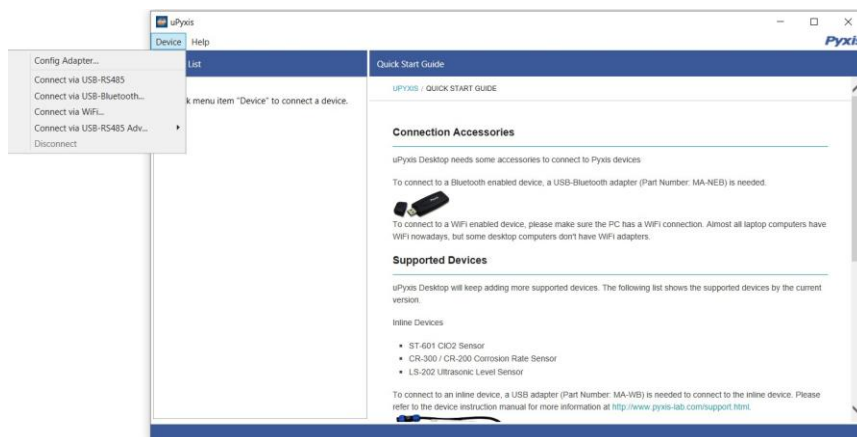

Figure 12.
3. On **uPyxis®** Desktop App, click Device → **Connect via USB-Bluetooth** or **Connect via USB-RS485** (Figure 12).
4. If the connection is successful, the ST-600 Series sensor and its Serial Number (SN) will be displayed in the left pane of the **uPyxis®** window.